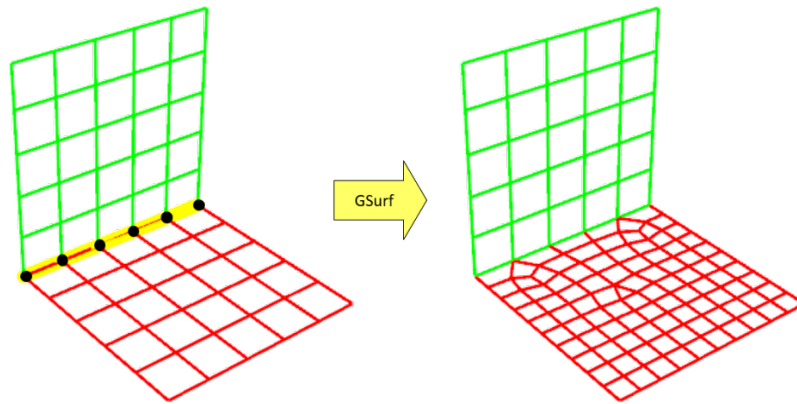

Figure 21: Specifying hard edges.
Hard edges are edges that are preserved in a mesh during the remeshing process. Consider an example in Figure 21 (left), which shows two conformal surface meshes. If one of the meshes (for instance, the red mesh) is changed (for example, refined) while the other is unmodified, the conformity of the meshes will be broken. **GSurf** offers a way to remesh a specific or all meshes while preserving discretization and conformity along mesh edges. This can be done by creating hard edges.
1. Use *Rhino's* **_DupBorder** command on the red mesh, which will duplicate the mesh border (i.e., will create a curve connecting only nodes on the mesh boundary). Delete unnecessary segments of the curve (use the **_SubCrv** command) leaving only those segments that connect to the green mesh (as shown in Figure 21, left).